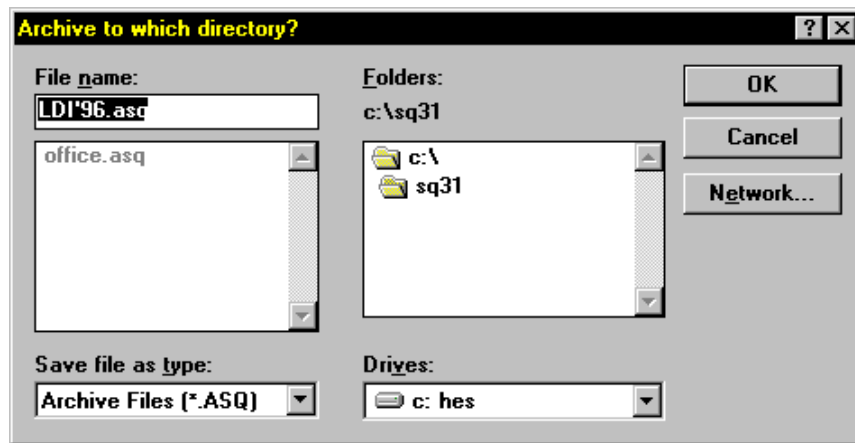

Figure 9.5. Archive To Which Directory Dialogue Box
1. Select **Archive...** from the **File** drop-down menu. This will bring up the **Archive to which directory?** dialog box. Refer to Figure 9.5.